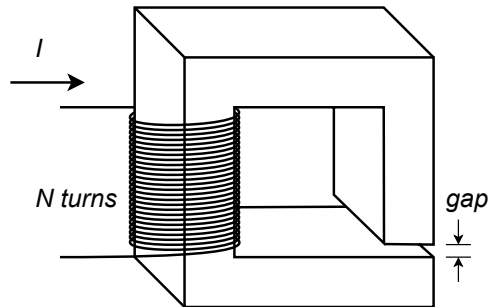

Figure 10.4
13. Given the magnetic circuit shown in Figure 10.4, assume the cross section is 1 cm by 2 cm with a path length of 6 cm. The entire core is made of sheet steel with the exception of a 1 mm air gap. Determine the current required to establish a flux of $4\text{E}-4$ webers if $N = 1000$ turns.